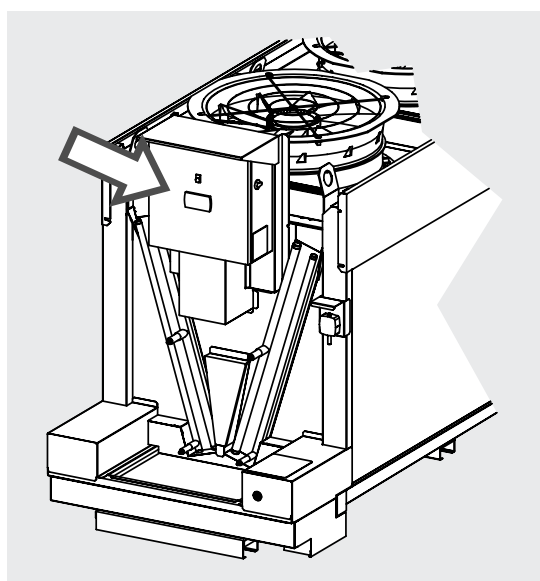

Figure 12
8.1 For detailed information, please refer to the switchboard wiring diagram and any other diagrams supplied with the model. See Figure 12.